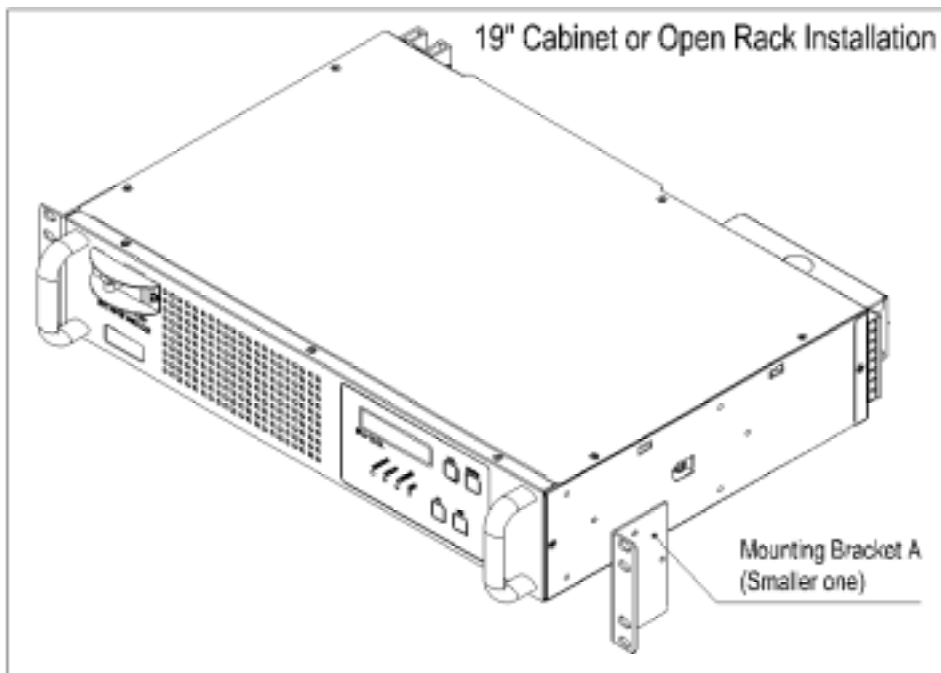

Figure 5. 19" Cabinet or Open Rack Installation
- For 19" installation, 2 PCS "Mounting Bracket A" should be installed to ESI Inverter (**Fig. 5**) .